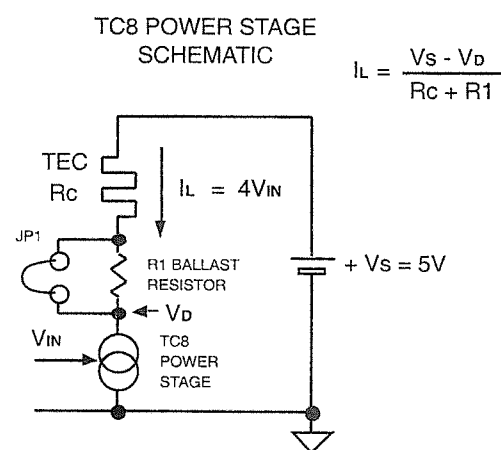
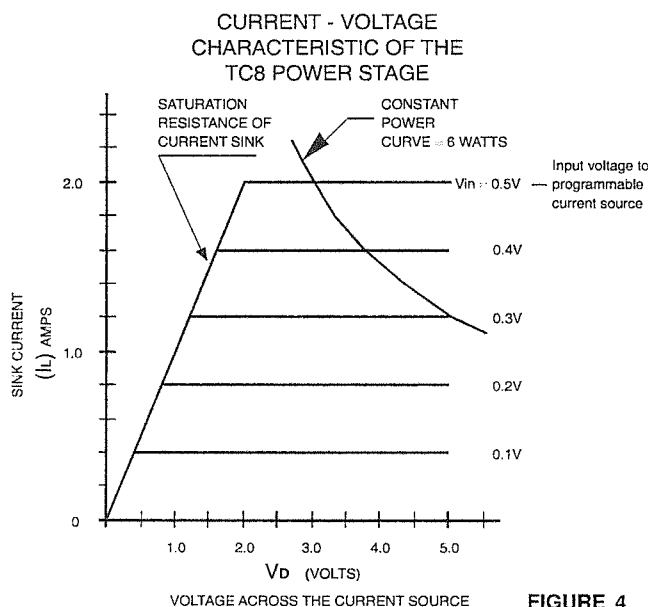
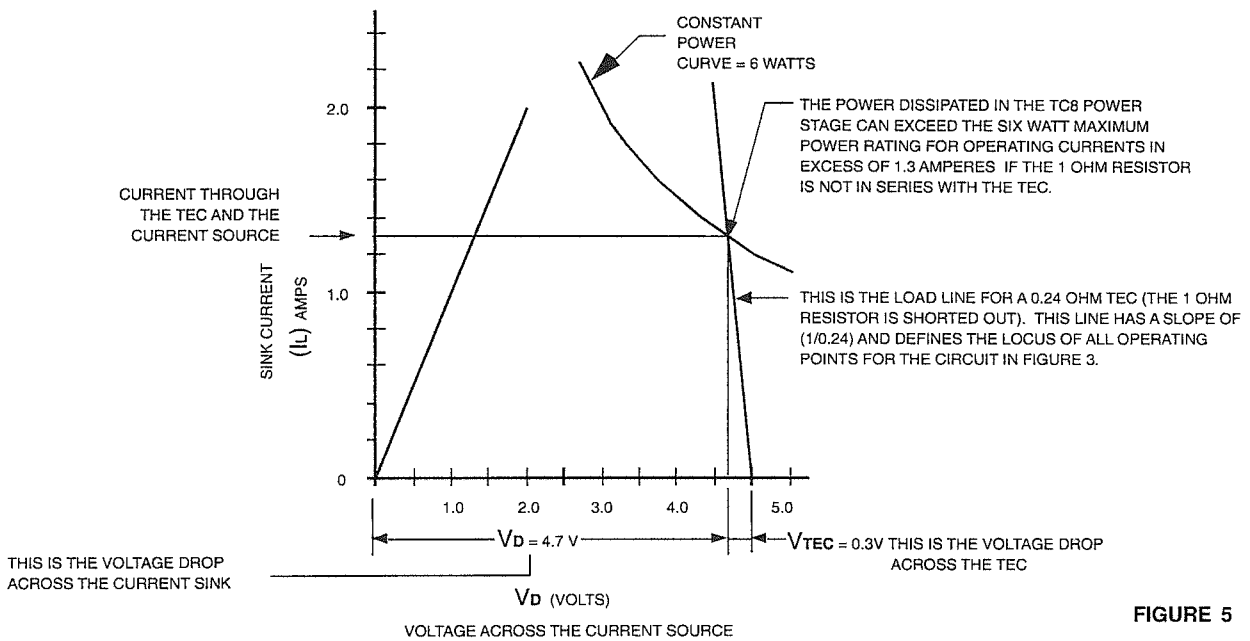
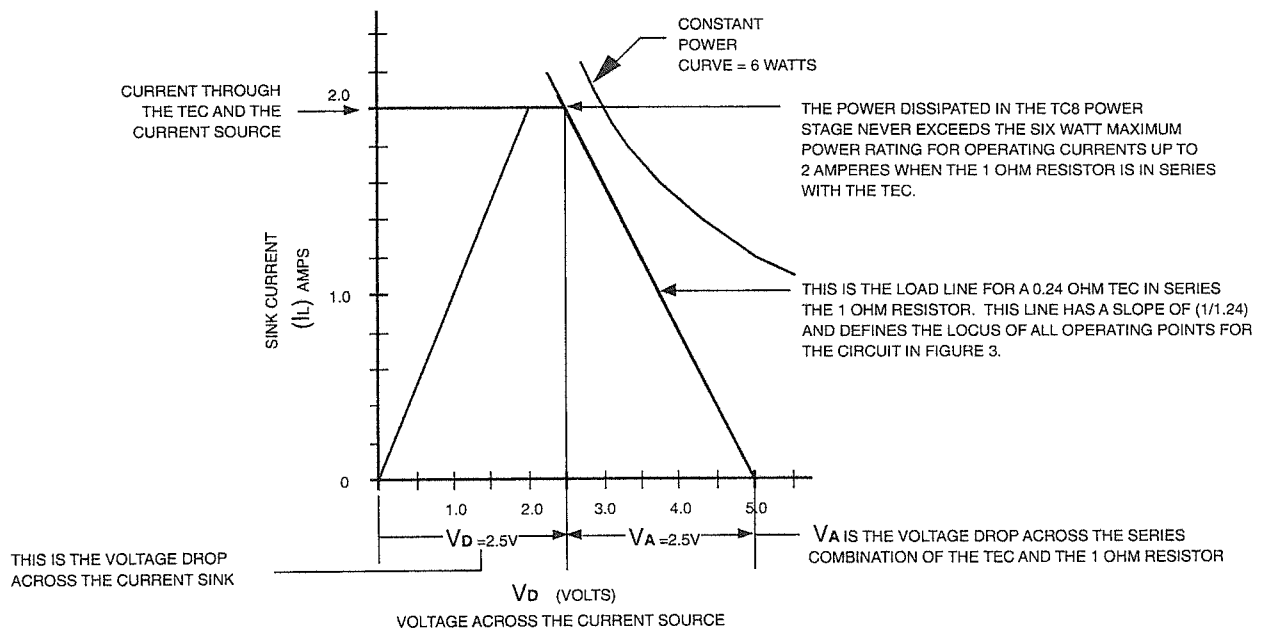

FIGURE 3
FIGURE 4
FIGURE 5
FIGURE 6
A one ohm power resistor (R_1) that is in series with the TEC and the power driver, is incorporated on the TC8 P.C. board (Figure 3). This resistor should be used if a TEC with a very low resistance is used, otherwise it is possible to operate the power stage of the TC8 at power level in excess of the 6 Watt maximum rating. A jumper across connector JP1 will short R_1 out if it is not needed. Note that the current flowing through the TEC, the 1Ω resistor (if used) and the TC8 power stage is the same and that the power supply voltage (V_S) is divided between these three elements. A load line technique can be used to determine the voltage drop across each of these elements. This will show if the power dissipated in the TC8 current source can exceed the six watt limit which in turn will determine if the 1Ω resistor is needed. This is accomplished by superimposing a load line for the TEC on the Current-Voltage characteristic of the TC8 power stage illustrated in Figure 4.
From the TEC specifications determine the maximum voltage and current limits and calculate the equivalent resistance. For example: Suppose the TEC is rated at 2 Amperes maximum at a maximum operating voltage of 0.48 Volts. This is equivalent to a resistance of 0.24Ω . To obtain the load line draw a line, with a slope of 1 divided by the resistance, through 5 Volts on the (X) axis in Figure 5. This line defines the locus of operating point for the circuit in Figure 3 and is illustrated in Figure 5.
It can be seen from Figure 5 that the power dissipation in the TC8 current sink can be exceeded for TEC drive currents in excess of 1.3 Amperes. The problem can be rectified by placing the 1Ω resistor in series with the TEC (remove the jumper). Now the resistance in series with the current sink is 1.24Ω and the load line passes through 5 Volts on the (X) axis and has a slope of 1 divided by 1.24. This line defines the new locus of operating point for the circuit in Figure 3 and is illustrated in Figure 6.